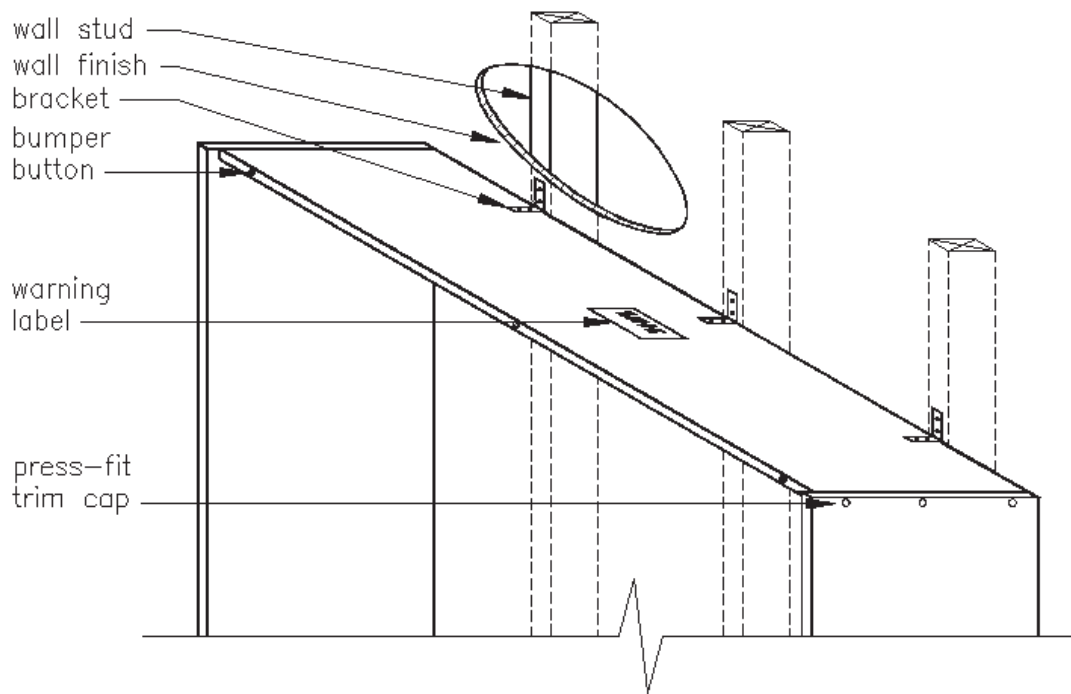

Figure 4. Securing the Cabinet.
- Use a step ladder to access the wall above the TOP STRETCHER and locate three studs or some other solid structural members to which you can fasten the 2" x 2" L brackets, see **Figure 4**.
- Peel off the backing and attach the Warning Label and the three 1/4" rounded Bumper Buttons, see **Figure 4**.